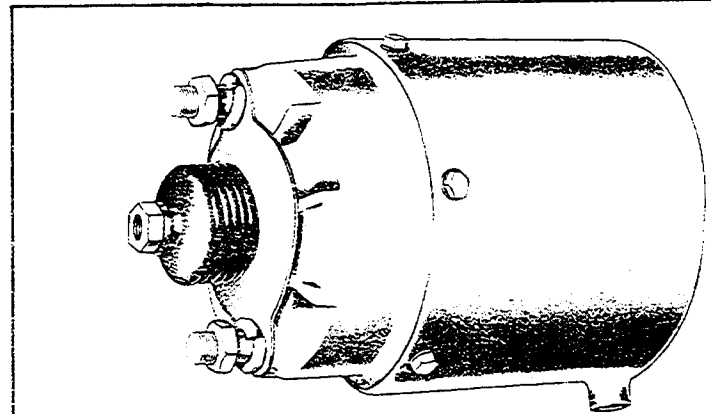

FIGURE 1 - EXTERIOR VIEW SPRING BRAKE ACTUATOR
**SPRING BRAKE ACTUATOR** The spring brake actuator (Figures 1 & 2) is an air cylinder with large return springs which are compressed by air pressure acting on the actuator's piston. When connected to the service brake slack adjuster releasing the air pressure from the actuator piston will apply the brakes. Restoring air pressure on the piston will release the brakes.